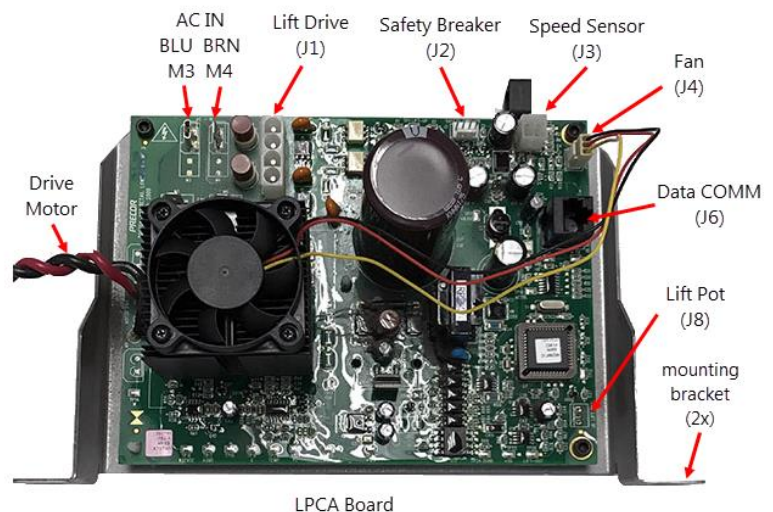

Fig. 1
- 2 Switch the power ON and determine the LPCA cooling fan operating condition. Make sure that there are no interface cables or debris blocking the fan rotation. Make sure that the fan power cable is properly connected (Fig.1):
- c Slightly tilt the LPCA board to the machine left side and disconnect the six LPCA interface cable connectors. Then disconnect (unplug) the drive motor power cable connector (Fig.1).
- a Position the LPCA bracket on top of the two mounting bolts. Then slightly tilt the LPCA board to the machine left side and reconnect the six LPCA interface cable connectors. Then reconnect the drive motor power cable connector (Fig.1).